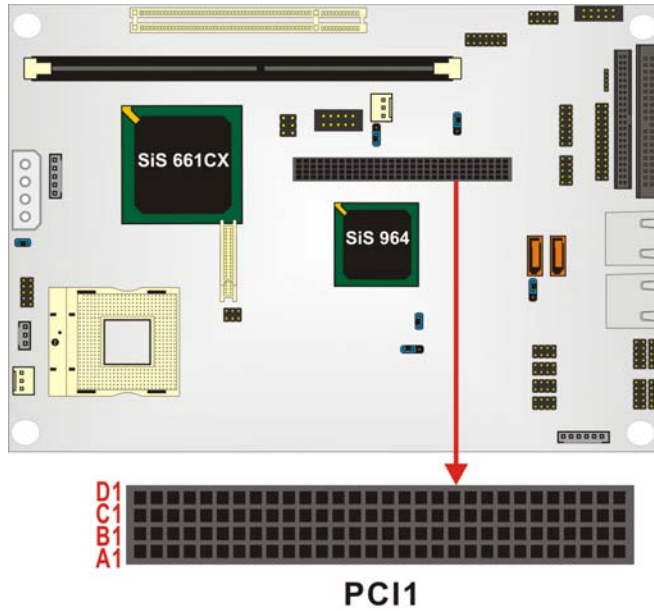

Figure 3-15: PCI-104 Connector Location
- CN Location:** See Figure 3-15